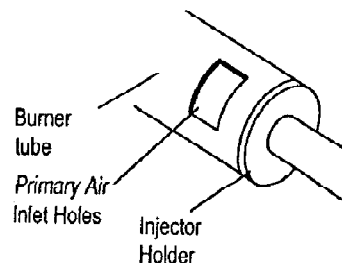

Figure 17 - Injector Holder On Outlet Burner Tube
2. Inspect burner, pilot and primary air inlet holes on injector holder for dust and dirt (see Figure 17).